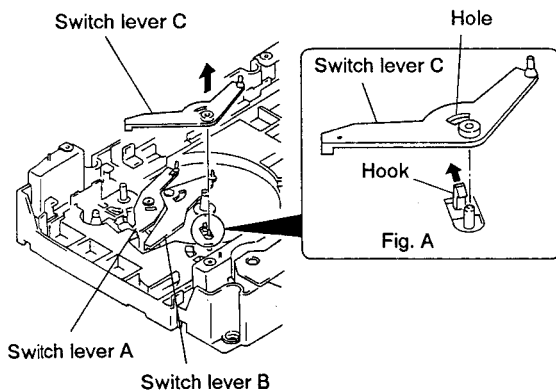

Fig. 2-14
2.11 REMOVAL OF SWITCH LEVERS A, B, AND C (Refer to Fig 2-14.)